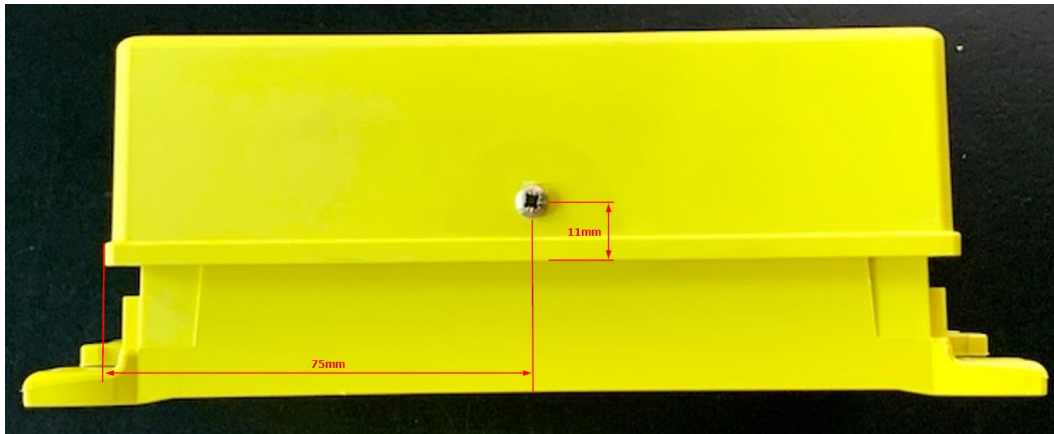

Figure 17: Fall protection with screw
- Hole as shown in Figure 17: Fall protection with screw 75mm from the left edge (measured at the rebate) and 11mm from the edge of the rebate.